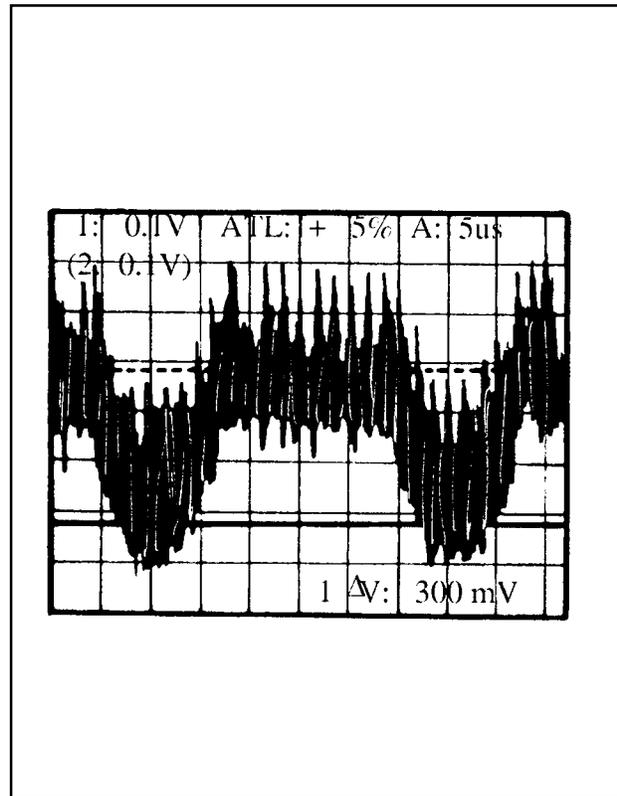

Figure 5-8.
6. Adjust the oscilloscope to 5 milliseconds/Division and **set Vertical (R26) for 300 millivolts.** Must be in Gentest to get signal. Refer to Figure 5-8.